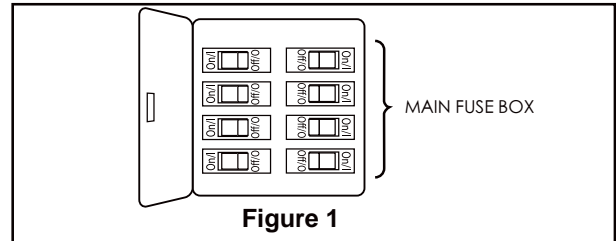
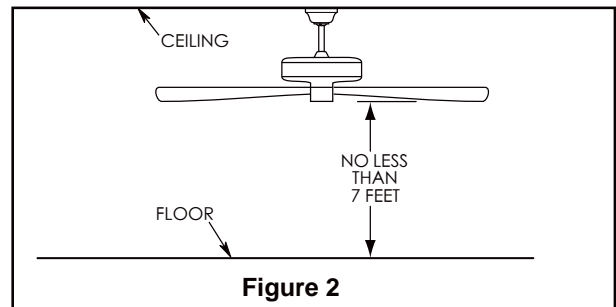
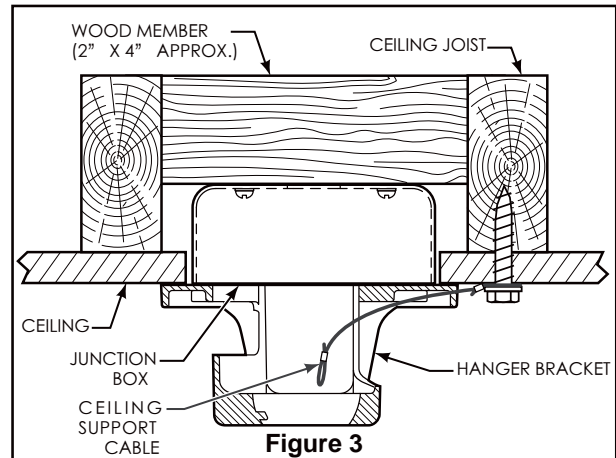

Figure 1
Figure 2
Figure 3
Your new ceiling fan will require a grounded electrical supply line of 120 volts AC, 60 HZ, 15 Amp Circuit. Electrical code requires use of a fan-rated outlet box to support the extra weight and motion associated with a ceiling fan. A fan-rated box will be labeled as such and typically supports up to a 70lb ceiling fan. Fan-Rated Outlet Boxes vary in ratings and design. Ensure the ratings of your ceiling fan outlet box meet the requirements for the ceiling fan being installed. Figure 1, Figure 2 and Figure 3 depicts different structural configurations that may be used for mounting the outlet box.
### Low profile box (Figure 1)
### Deep box (Figure 2)
### Deep box with brace (Figure 3)
1. Cut off excess lead wire approximately 6 to 9 inches above top of the downrod. Strip insulation off 1/2 inch from the end of each lead wire. (Figure 1)
To avoid possible electrical shock, be sure electricity is turned off at the main fuse box before hanging. (Figure 1)
The fan must be hung with at least 7' of clearance from floor to blades. (Figure 2)
1. Using the  $\frac{3}{8}$ " x 2" lag bolt and flat washer, attach safety cable to ceiling joist or wood structural member. The lag bolt will pass through the flat washer, safety cable loop, and into the building structure (Figure 3). You will first drill a  $\frac{1}{4}$ " pilot hole into the building structure to prevent splitting or cracking.
**NOTE:** Ceiling support cable cannot be secured to junction box only, it must be directly secured to ceiling joist or structural member using the  $\frac{3}{8}$ " x 2" lag bolt and flat washer. (Figure 3)
1. To set the code on receiver unit, slide dip switches to the same positions as set on the remote. If complete the receiver code setting process, put the rubber cover (included) in the receiver unit. (Figure 1)
To avoid possible electrical shock, be sure electricity is turned off at the main fuse box before wiring (Figure 2).
2. Connect green wires from hanger bracket and downrod to bare (ground) wire using wire connector. Connect black wire from receiver unit marked "AC IN L" to black supply wire using wire connector. Connect white wire from receiver unit marked "AC IN N" to white supply wire using wire connector. Connect white wire from receiver unit marked "TO MOTOR N" to white wire from fan using wire connector supplied with receiver unit. Connect black wire from receiver unit marked "TO MOTOR L" to black wire from fan using wire connector supplied with receiver unit. Lastly, connect blue wire from receiver unit to the blue fan light wire using wire connector supplied with receiver unit. (Figure 3)
- 1. Remove one of the two shoulder screws in the hanger bracket. Loosen the second shoulder screw without fully removing it. Assemble canopy by rotating key slot in canopy over shoulder screw in hanger bracket. Tighten shoulder screw. Fully assemble and tighten second shoulder screw that was previously removed. (Figure 1)
- 2. Securely attach and tighten the canopy screw cover over the shoulder screws in the hanger bracket utilizing the keyslot twist-lock feature. (Figure 2)
1. Position blades over the threaded posts and secure with the 3/16"-24 serrated head screws and flat washers. (Figure 1)
1. Remove one of the three screws in the support bracket at the bottom of the motor assembly and retain the screw for later. Slightly loosen the remaining two screws. (Figure 1)
2. Assemble the light kit to the motor assembly support bracket using the two key slots in the light kit. Replace the previously removed screw and securely tighten all three screws. (Figure 2)
3. Remove one of the three screws in the light kit and retain the screw for later. Slightly loosen the remaining two screws. (Figure 3)
- 1. IMPORTANT:** Using a full range dimmer switch (not included) to control fan speed will damage the fan. To reduce the risk of fire or electrical shock, do not use a full range dimmer switch to control the fan speed. (Figure 1)
- 2.** Restore electrical power to the outlet box by turning the electricity on at the main fuse box. (Figure 2)
- 3.** To make fan operational, install 23A/12V battery (included) in hand-held remote transmitter, with fan power off. Then follow the remote code setting process. (If not used for long periods of time, remove battery toprevent damage to transmitter). Store the remote away from excessive heat or humidity. (Figure 3)